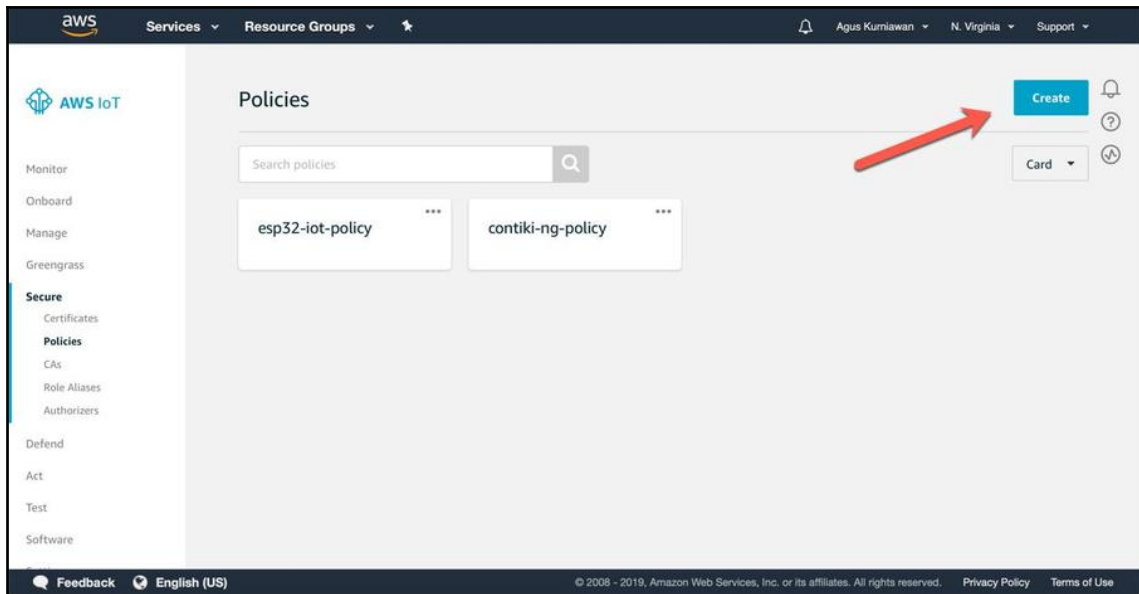

Figure 10.7: Creating a security policy
3. Click on the **Secure | Policies** menu so that you can get a web form, as shown in *Figure 10.7*.